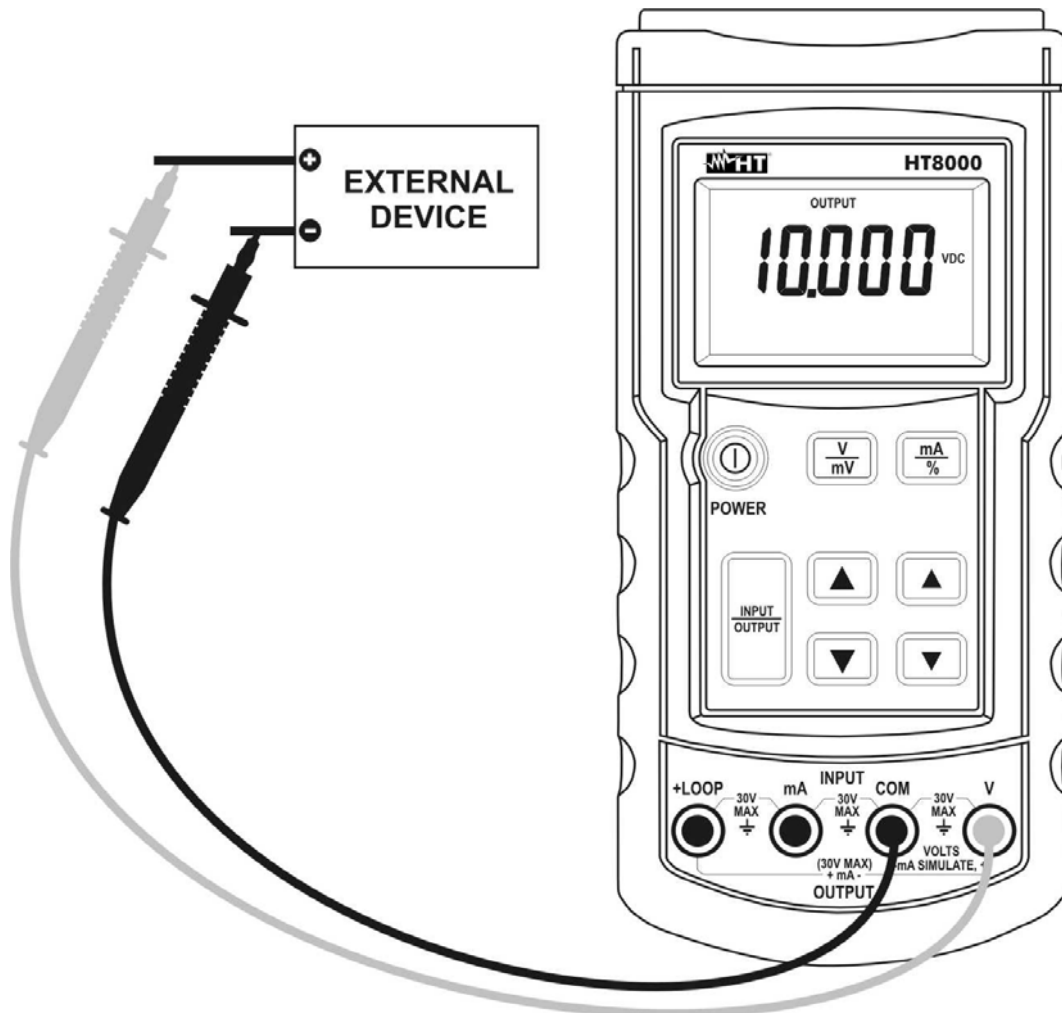

Fig. 3: DC Voltage generation
5. Connect the red and black test leads to the positive and negative poles of the external device respectively (see Fig. 3).
6. For the generation of a negative value of voltage connect the test leads in the opposite direction than shown in Fig. 3